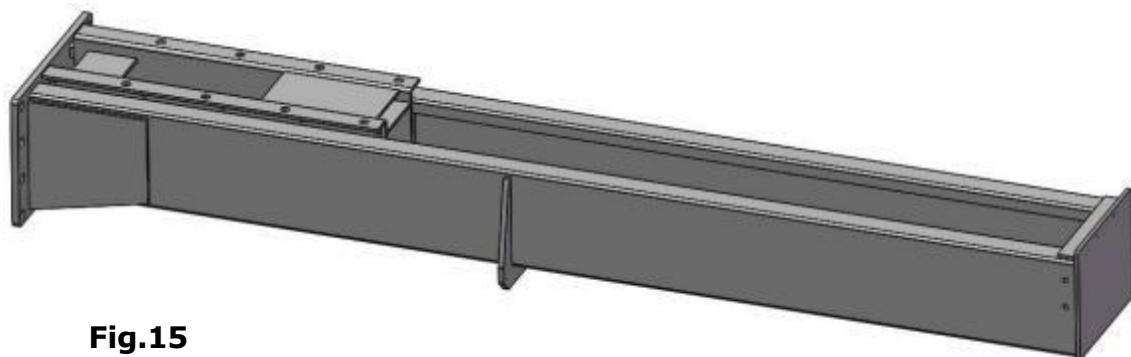

Fig.15
1. Lay the column flat to the ground. (See Fig.15)